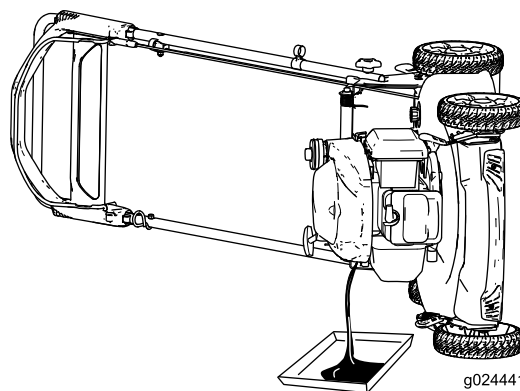

Figure 23
4. Tip the machine onto its side with the dipstick down to drain the used oil out through the oil-fill tube (Figure 23).